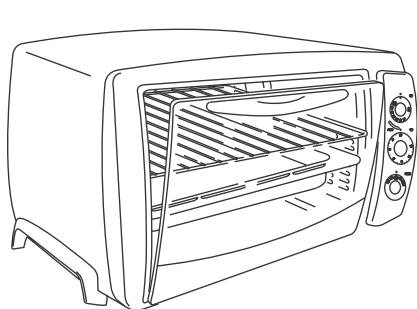

fig. 1
Fit the wire rack (**N**) in the upper guide (1) and the dripping pan (**M**) in the centre guide (2), as shown in Figure 1. A glass of water can be poured into the dripping pan (**M**) to make cleaning easier, and prevent smoke being produced by the burning fat.
Preheat the oven for 5 minutes, with the door slightly ajar (as highlighted in Figure 1).